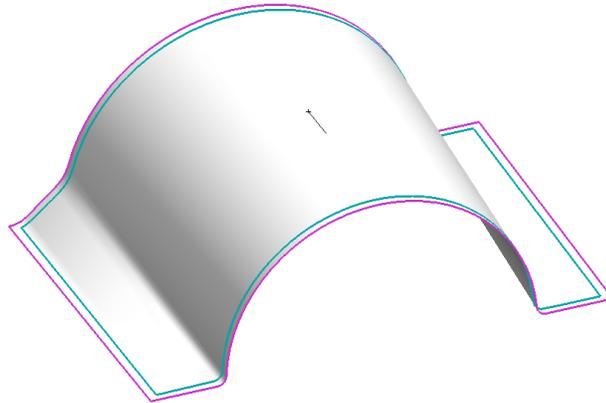

Figure 3–2
1. Open **INTRO_PLY_A.prt**. The model displays as shown in Figure 3–2.